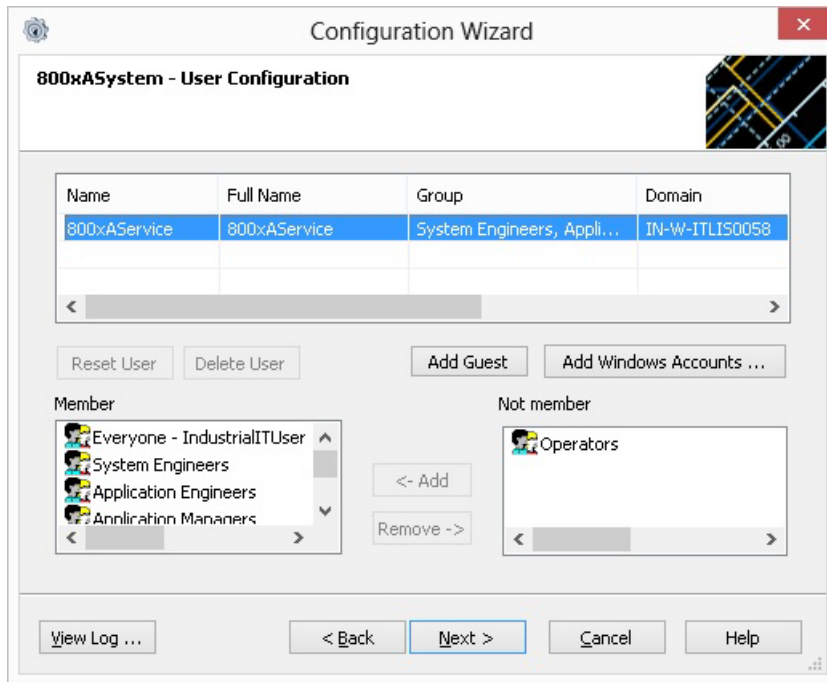

Figure 27. User Configuration Dialog Box
4. Select **Users**, see Figure 17. The User Configuration dialog box is displayed, see Figure 27.
- In the User Configuration dialog box, you can select the Industrial^{IT} 800xA groups of which a Windows user must be member, see Figure 27. Select Windows user in the top window and use the **Remove** and **Add** buttons to move Industrial^{IT} 800xA groups to the **Member of** field.